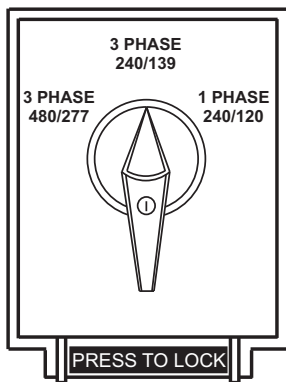

Figure 13. Voltage Selector Switch
A wide range of voltages are available to supply voltage for many different applications. Voltages are selected by using the **voltage selector** switch (Figure 13). To obtain some of the voltages as listed in Table 7 (see below) will require a fine adjustment using the **voltage regulator (VR) control knob** located on the control panel.
The voltage selector switch (Figure 13) is located above the output terminal panel's Hard Wire Hook-Up Panel. It has been provided for ease of voltage selection..